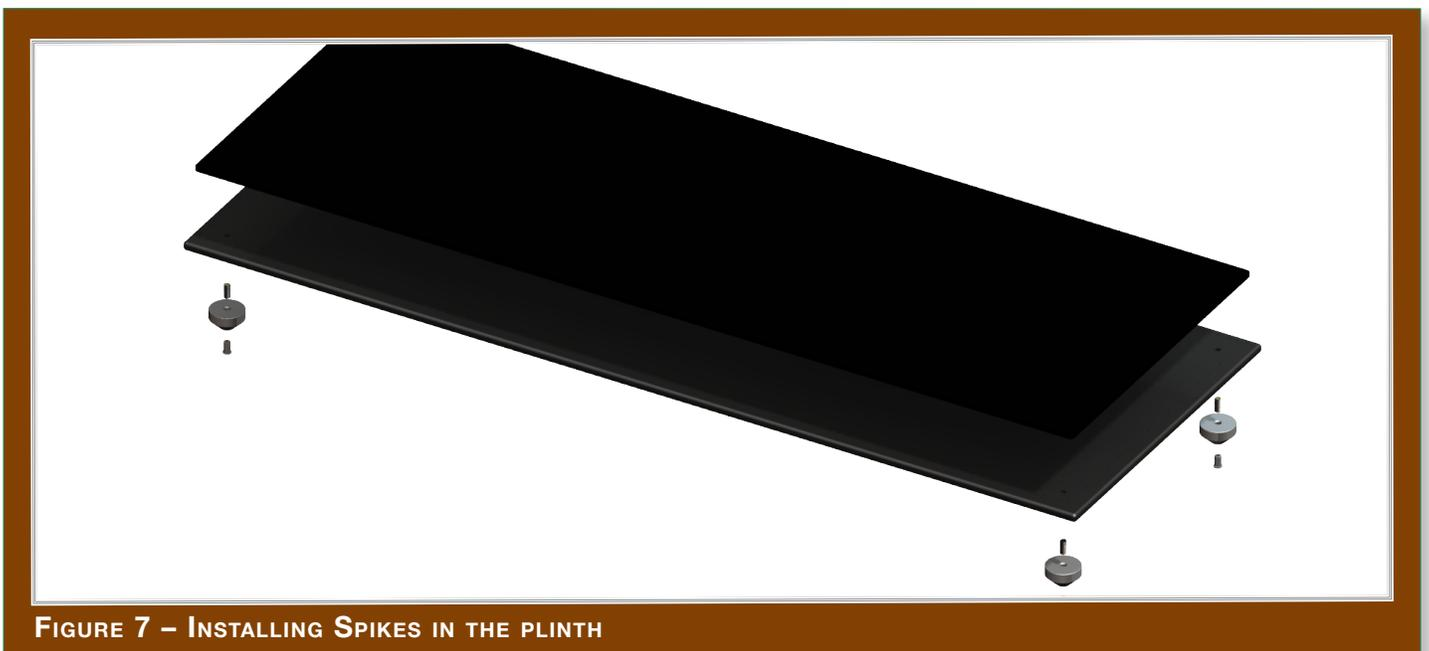

FIGURE 7 – INSTALLING SPIKES IN THE PLINTH
B. Ears and meters are not directly interchangeable. They neither sample nor process the sound in a completely analogous manner (see Figure 7).